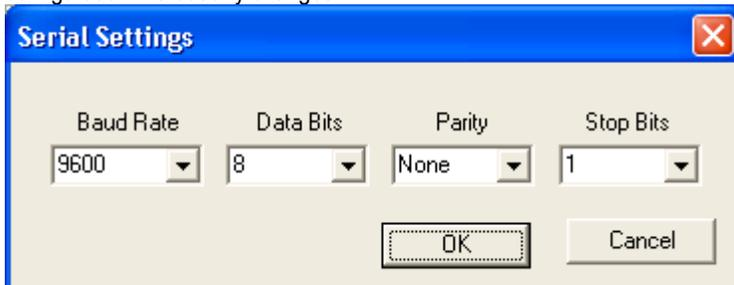

Figure 5
9. **Configuration.** Click  on the toolbar. A window, as Figure 5, will pop up. Select the required serial settings and click **Ok** to save the new settings. The serial information on the toolbar will also reflect the new settings. Click **Cancel** to exit configuration without any changes.